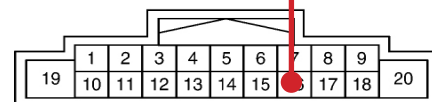

Fig. 2
3. Connect the Pink wire (from step 2) to the Light Blue wire (CAN +) in pin 41 of the 40 pin radio connector (see Fig. 2).
4. Connect the Pink / Black wire (from step 2) to the Light Green wire (CAN -) in pin 21 of the 40 pin radio connector (see Fig. 2).